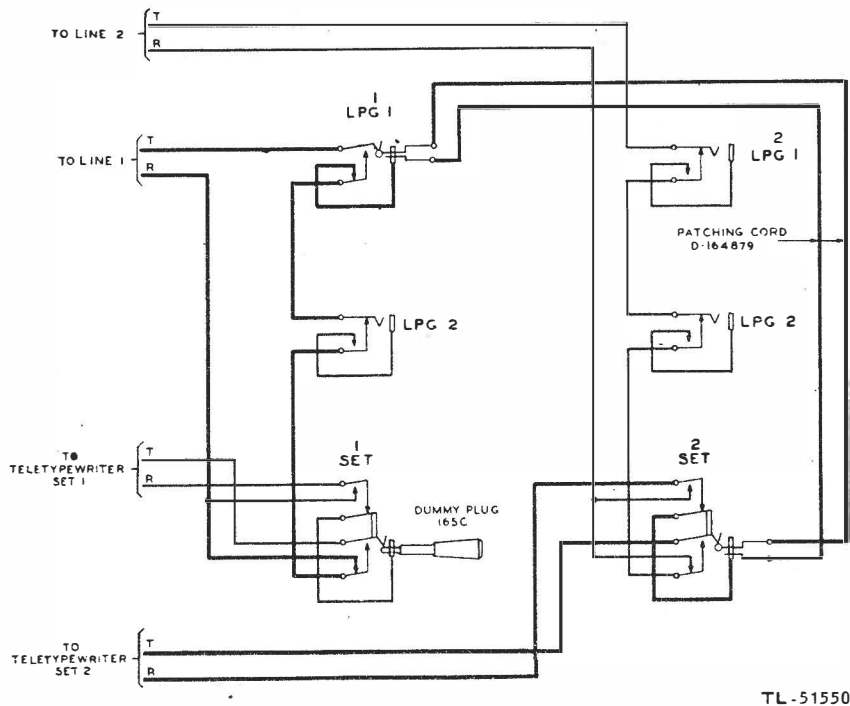

Figure 4. Patching cord, connection between a set jack and a line circuit jack.
a. Each line circuit consists of LPG1, LPG2, and SET jacks internally wired in series so that a teletypewriter set can be connected to the desired line circuit where it will normally be assigned. When desired, this teletypewriter can be patched to other line circuits by inserting one end of a patching cord into the SET jack and by inserting the other end of the patching cord into one of the LPG jacks in another line circuit. The equipment should always be patched to the desired line circuit rather than trying to patch the line to another jack circuit. In case the above patch is made for reason of a set failure, the defective set is removed from the line circuit by inserting a dummy plug into the associated SET jack (fig. 4).
**b.** The circuit arrangement for emergency purposes is such as to allow any set jack to be connected to either looping jack of any line under emergency conditions or for other purposes. The circuit arrangement is also such as to allow any of the miscellaneous jacks to be connected to a looping jack of any line circuit. This is illustrated in figure 4.